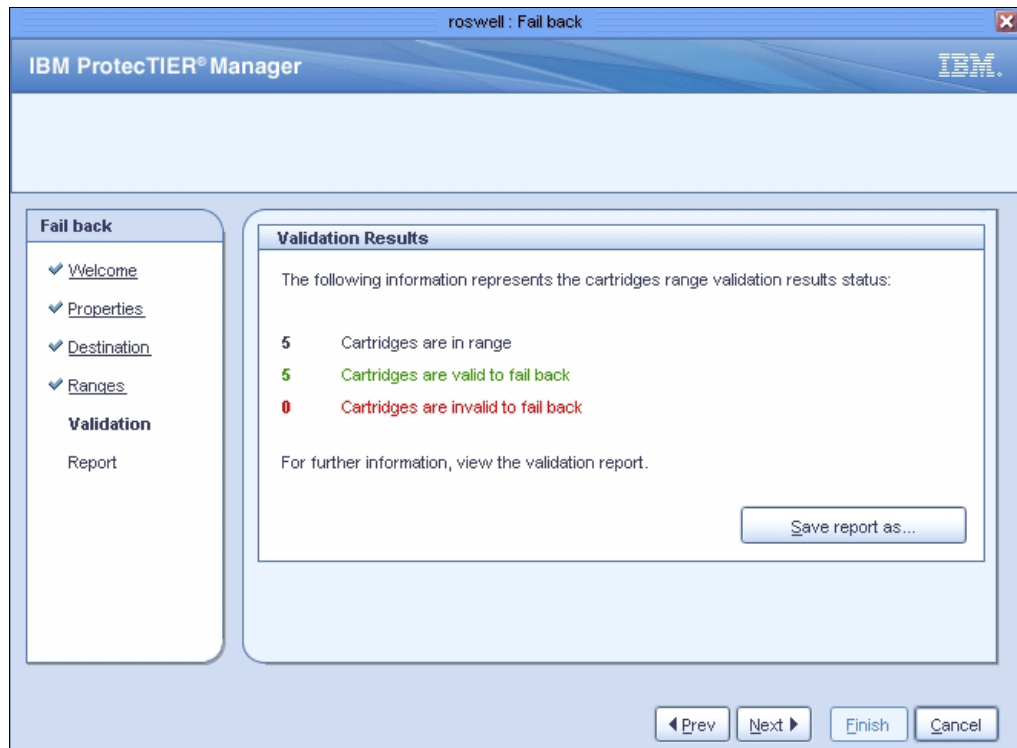

Figure 11-11 Create failback policy validation window
5. Click **Next**. The failback policy validation window opens (Figure 11-11). Here you can see if all of your selected cartridges are valid for failback. If not, select **Previous** to check and change your fail back cartridge range.